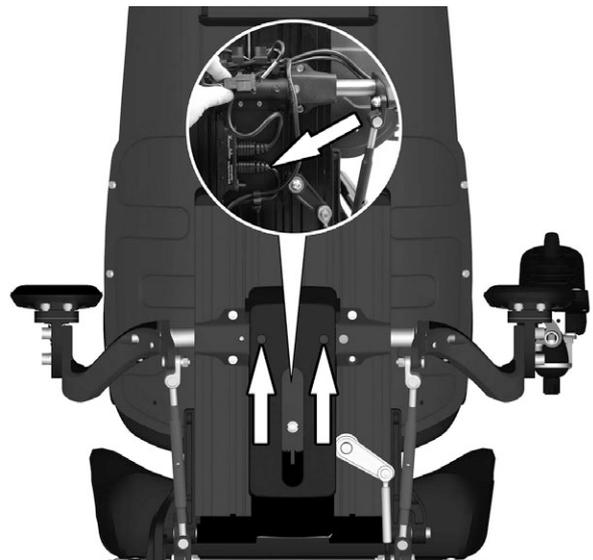

Figure 90. The contact block is located under the cover which is attached with two screws.
9. Remove the cover on the back of the back rest. It is attached with two screws. Disconnect the Rnet cable that connects the ICS Master Module to the contact block at back of the back rest. See fig. 90. Release the cable from its cable brackets on the seat frame. Make note of how the cable is assembled with consideration to subsequent assembling. See *Rnet and ICS bus cable mounting*, Page 83.